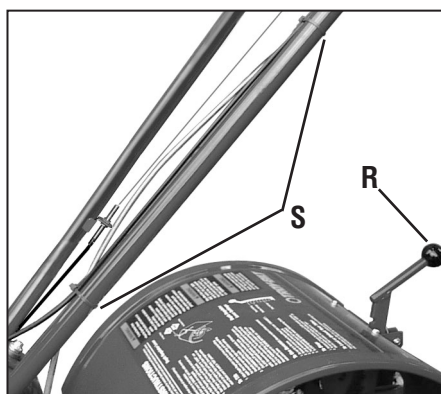

Figure 2-13: Attach wheel gear cable and reverse clutch cable with cable ties (S).
1. With the tiller on level ground, pull the Depth Regulator Lever (R, Figure 2-13) back and then slide it to the second notch from the top. **NOTE:** If the lever does not move, lift the tine hood flap and look for a plastic tie securing the lever in place. Cut and remove the tie.
4. Secure the wheel gear cable and the reverse clutch control cable to the left-side handlebar with two plastic ties (S, Figure 2-13) located about two feet apart. Snip off any excess tie length with scissors.